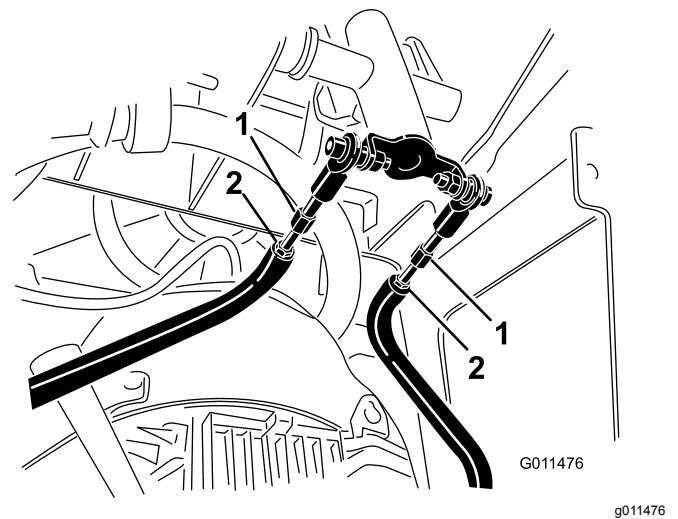

Figure 55
- Loosen the jam nuts on the traction rods, under the control panel (Figure 55).